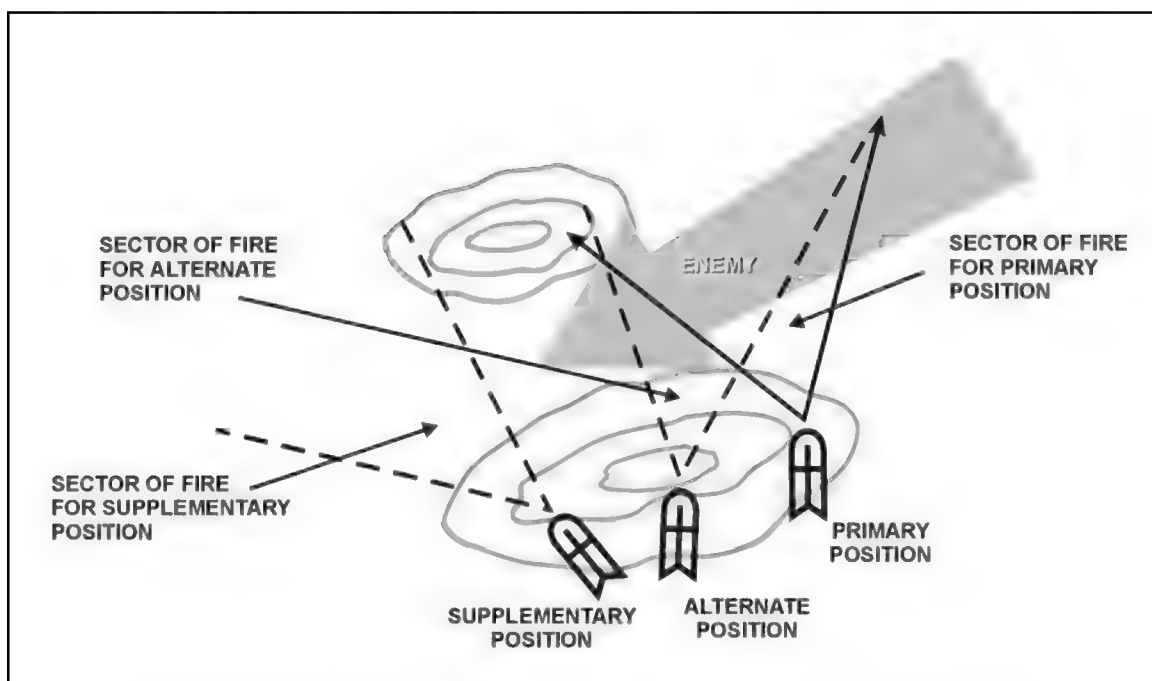

Figure 4-4. Primary, alternate, and supplementary positions.
c. **Positions.** The three types of Javelin positions include primary, alternate and supplementary (Figure 4-4).